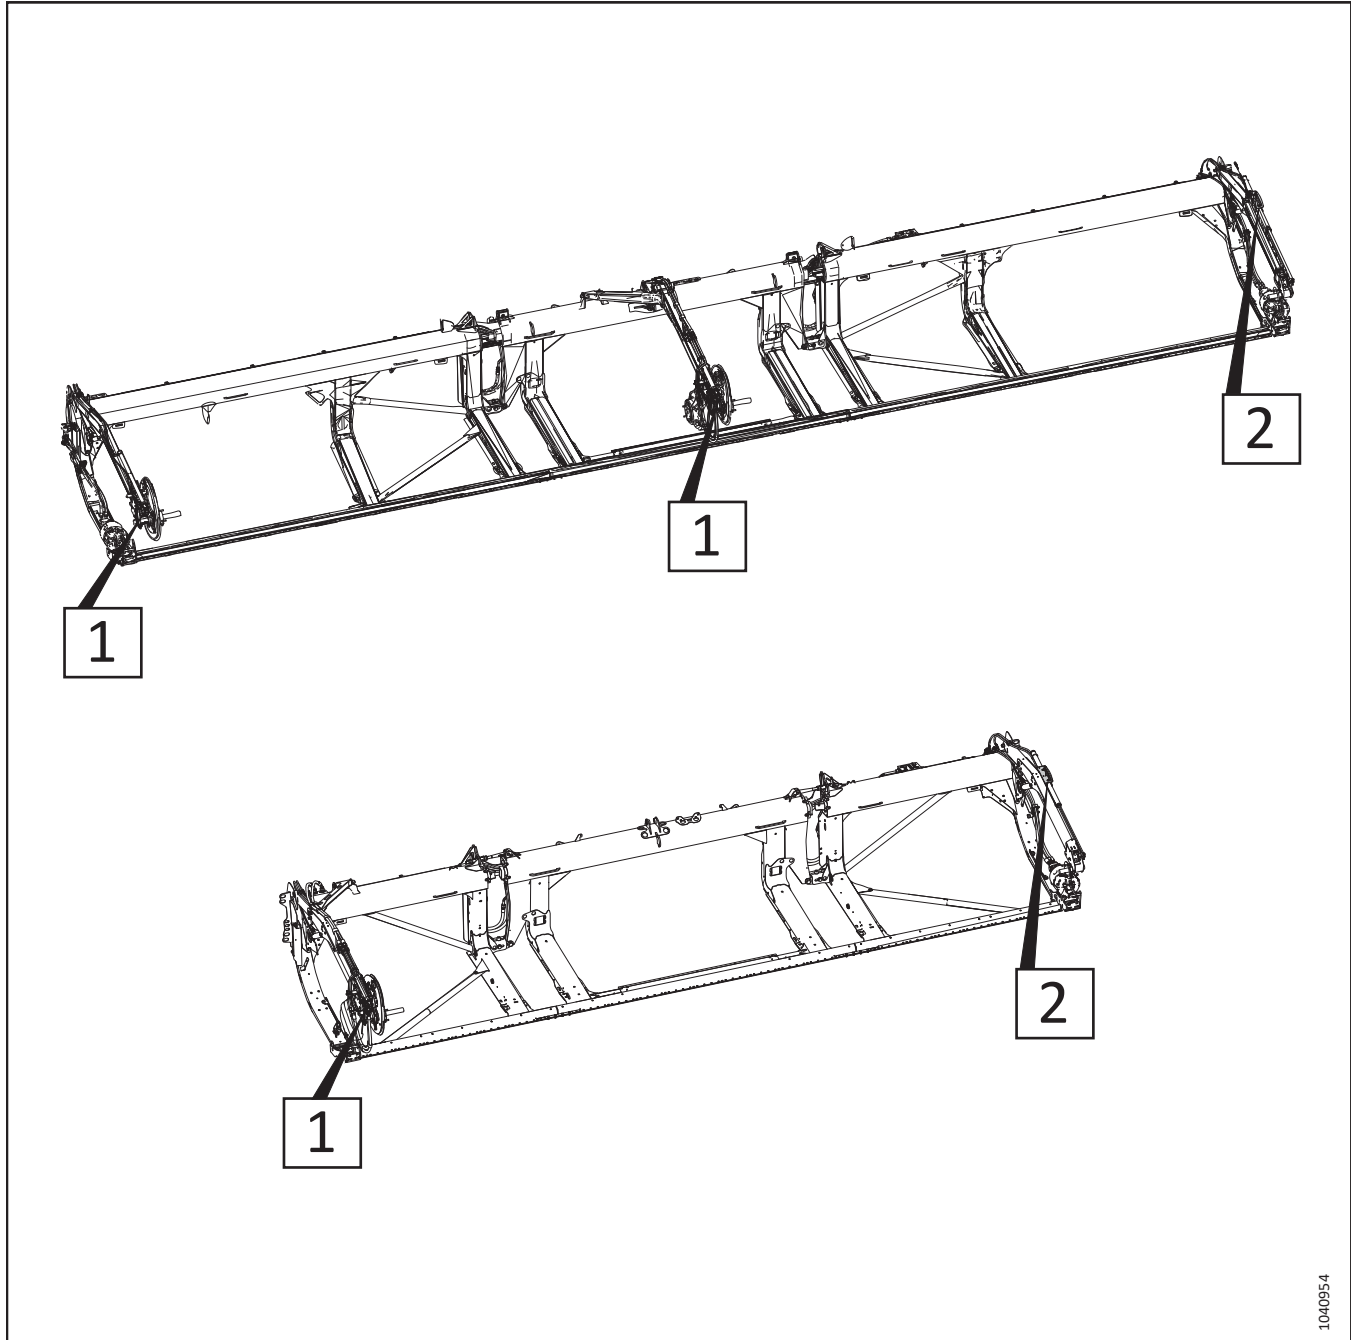

Figure 3.51: Adjustable Fore-Aft Cylinders – Procedure Reference Numbers
6. Refer to Figure 3.51, page 89 to determine the fore-aft cylinder adjustment procedures for your header type. The number on the illustration refers to one of the following procedures: